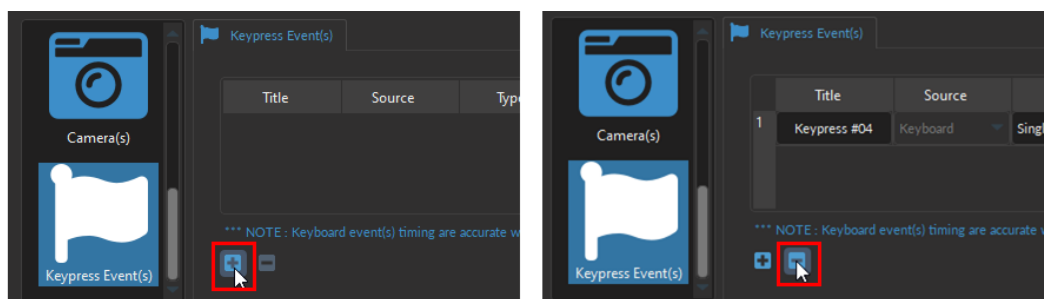

Figure 5.40: Adding and Removing Keypress Events
To add a new **KeyPress Event**, select the + sign at the bottom of the window (Fig. 5.40, left). To remove a Keypress, use the - button (Fig. 5.40, right).
- **NOTE:** Selecting the + button (without clicking the *Add* button or the *Close* of the *Channel Configuration* window) will **automatically** add the Keypress Event channel at the **bottom** of the Acquisition View window, below any pre-existing channels (Fig. 5.40).